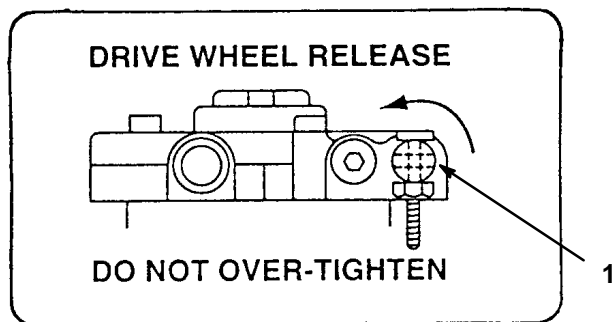

Figure 15
2. Rotate the by-pass valves counterclockwise 1 turn to push. This allows hydraulic fluid to by-pass the pump enabling the wheels to turn (Fig. 15).
1. Turn the by-pass valves in to operate (Fig. 15).